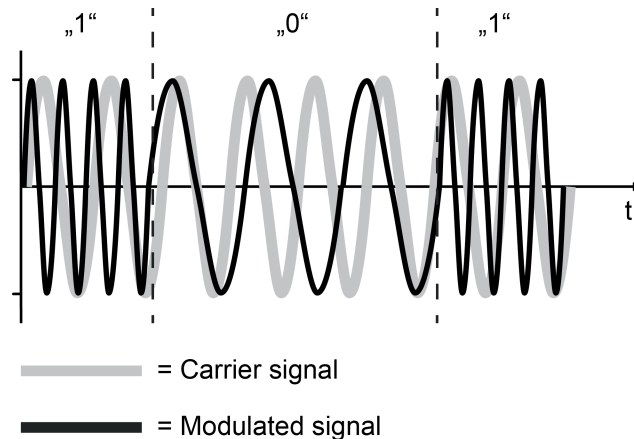

Figure 4: Frequency key shifting as a modulation method (FSK = Frequency Shift Keying)
An electromagnetic wave of a constant amplitude and frequency does not yet carry any information. To make this possible, the transmitter must change the amplitude or the frequency of the wave continuously according to an agreed method and the carrier signal must modulate the information in this manner. With KNX RF, the modulation type "Frequency key shifting" (FSK = Frequency Shift Keying) is used (Figure 4). Frequency key shifting is a variant of frequency modulation (FM) and suitable for the transmission of digital information. Two time-coded signals of a different frequency are transmitted, in order to inform the receiver of the logical states "0" and "1". Frequency key shifting is impervious to interference. Even major transmission losses in signal amplitude do not have a negative effect on the demodulation of the transmitted information.